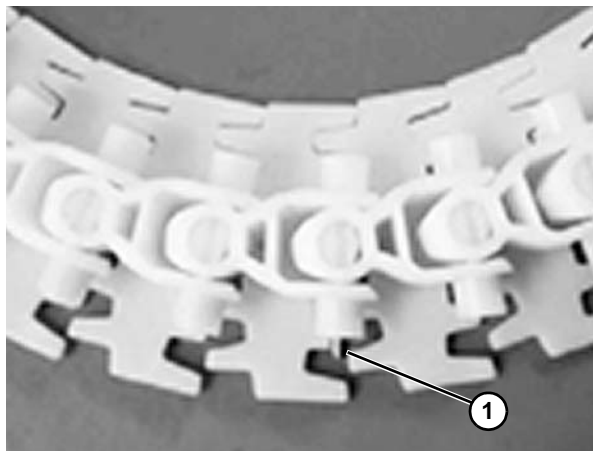

Figure 52
4. Check that the chain is flexible in the joint and that the pin does not stick out or go through the other side (**Figure 52, item 1**).